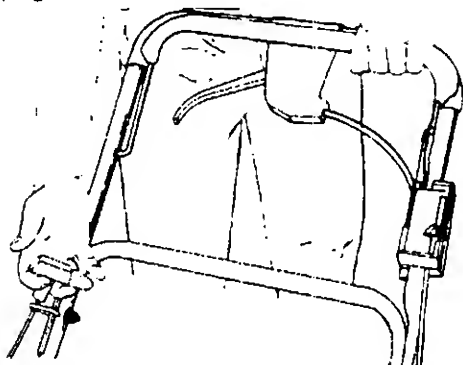

FIGURE 24.
3. Standing behind the unit, depress the blade control handle and hold it against the upper handle as shown. See figure 24.